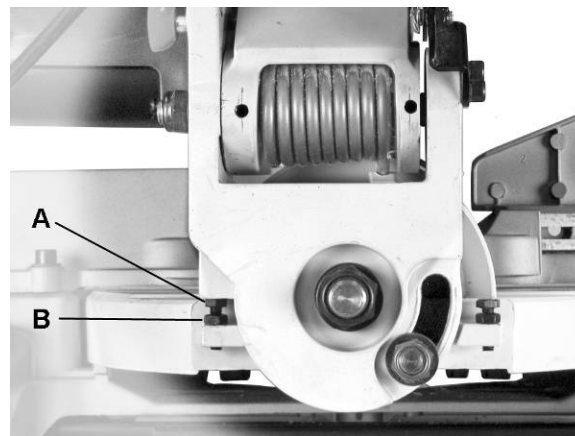

Figure 7
4. To adjust, tilt the cutting arm to 45°, loosen the *lock nut* (B, Fig. 7) and turn the *stop bolt* (A,) in or out accordingly.
6. Repeat steps 1–4 if necessary until the blade is 90° to the table, then tighten the *lock nut* (B, Fig. 7) to secure the *stop bolt* (A, Fig. 7).